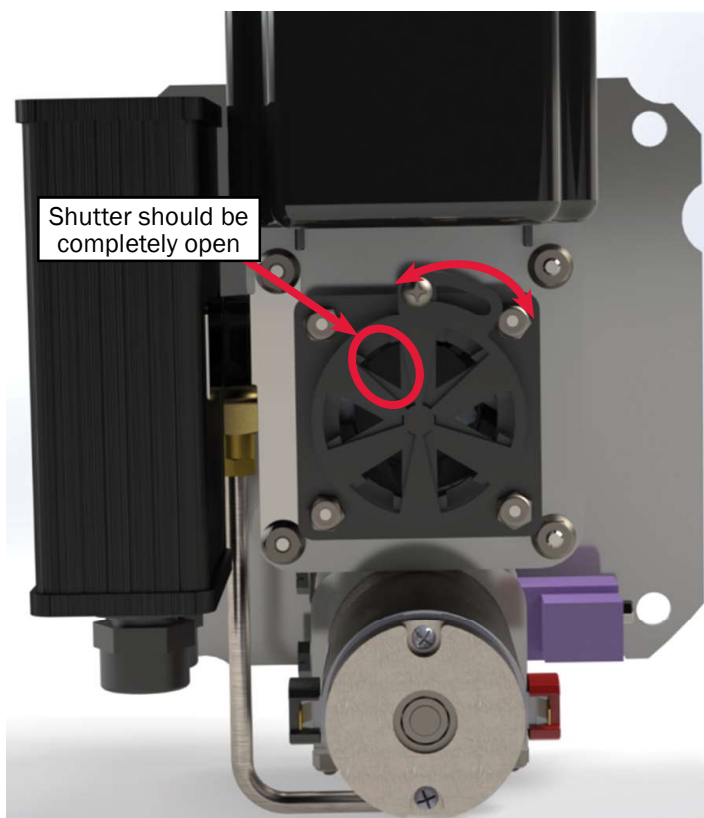

Figure 129
3. The diesel air shutter will now rotate from left to right. See Figure 129.
4. The diesel air shutter should be completely open as shown in Figure 129.